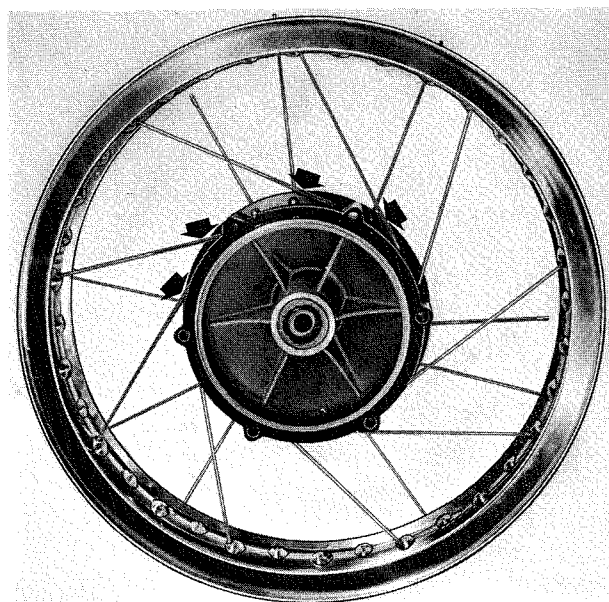

Fig. 10
10. Start to assemble the spokes which have been stuck upwards (the rivet inwards the hub) according to figure 10. Start with a hole in the rim with a big inclination angle. Then use every fourth rim hole. Screw on the nipple a few turns.